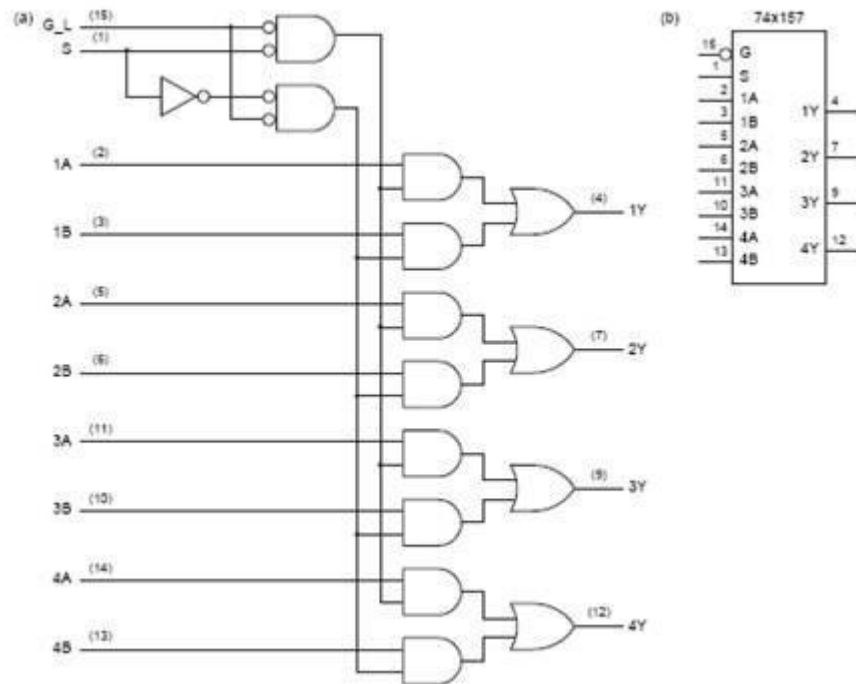

Fig 7.15 Logic symbol and logic circuit diagram of IC 74157
The IC 74xx157 shown in fig 7.15 is a quad 2-input multiplexer which selects four bits of data from two sources under the control of a common select input(S), the Enable input(E') is active LOW. When E' is HIGH, all of the outputs (Y) are forced low regardless of all other input conditions. The truth table is shown in table 7.7